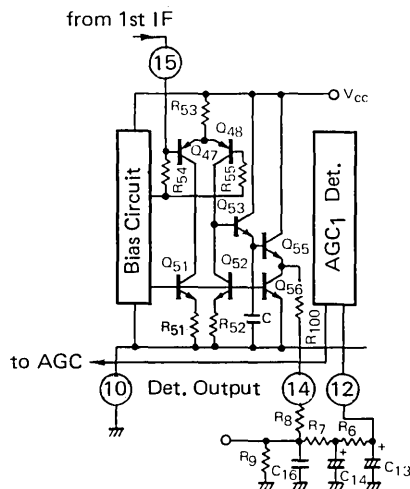

Fig. 5 AM Detector
The station detector (SD) is provided to stop automatic scan-seeking when a station is found. A high-level DC output is obtained by this detector when a station is found. It has almost the same circuit configuration as the detector shown in Fig. 5. An IF signal of 450 kHz obtained by the IF amplifier is discriminated from that of the adjacent channel by a narrow-band ceramic filter CFM2-450ZL and delivered to this stage through pin 17. After amplified by one stage by Q₅₄ and Q₆₀, the signal is demodulated by Q₃₆ and a smoothing capacitance, DC-amplified by Q₆₅ and Q₆₉ to drive Darlington open collector transistors Q₇₂ and Q₇₃.